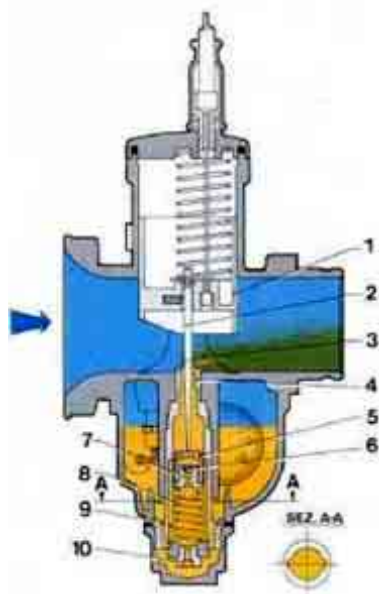

fig. 30
**Figure 30** shows a simpler pump system than the one previously described, used on some other carburettor models.
The pump action is also affected by the length of the grooves (9) machined in the internal walls of the cylindrical chamber, where the pump piston moves (see figure 30).